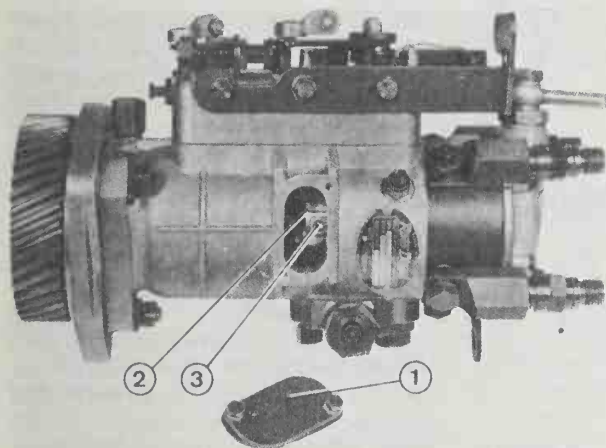
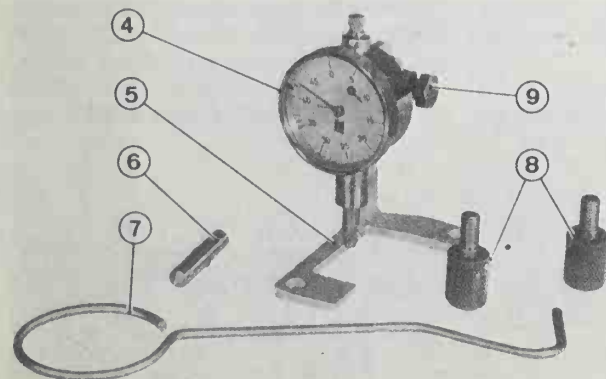
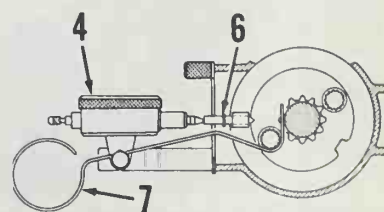

Fig. P1-8—View of Roto Diesel fuel injection pump with inspection plate (1) removed showing timing groove (2) and timing pin guide (3).
Fig. P1-9—Use the tools shown to time Roto Diesel fuel injection pump as outlined in text.
Fig. P1-10—Install timing tools as shown to time Roto Diesel fuel injection pump.
ROTO DIESEL PUMP. With number 4 piston in firing position as previously outlined, remove pump inspection plate (1—Fig. P1-8) and note timing groove (2) in pump drive sleeve. If pump is separated from engine, rotate drive gear so groove (2) is aligned with timing pin guide (3). If pump is mounted on engine, groove (2) should be near timing pin guide (3), if not, remove pump and rotate drive gear. Install timing pin (6—Fig. P1-9) and dial gage as shown in Fig. P1-10. If not installed, mount pump on engine and tighten support plate screws to 19.6-24.5 N·m. Pump retaining nuts must be just loose enough to rotate pump. Install anti-backlash tool (7—Fig. P1-9) as shown in Fig. P1-10, then rotate pump until maximum dial gage reading is obtained and tighten pump retaining nuts to 14.7-19.6 N·m. Timing marks should be stamped on pump support plate and pump flange for future reference. Remove timing tools and install inspection plate.